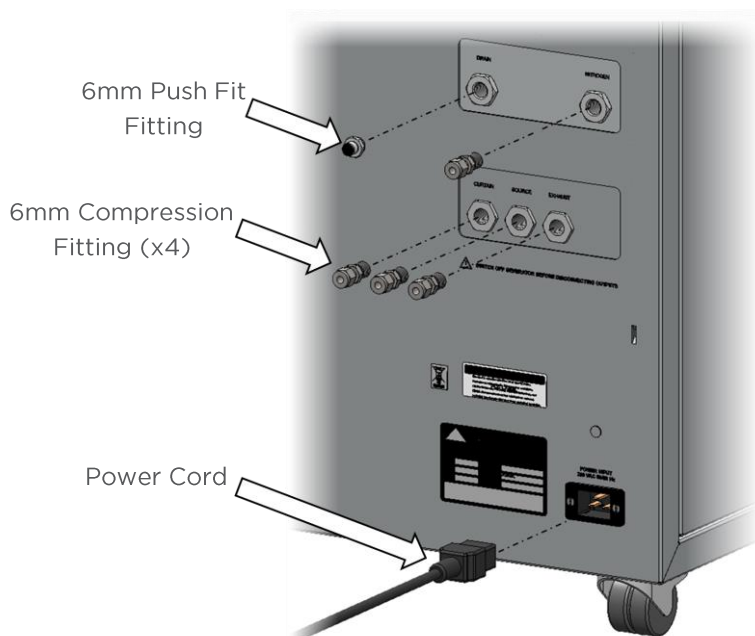

Figure 3: Rear Connections
Fit the 6mm push fit fitting (item 2 from fittings kit) to the drain port located on the output panel (see Figure 3). Tighten using a 16mm or 5/8” spanner. Use the 6mm tubing (item 4 from fittings kit) to connect this to a suitable drain connection or container. It should be noted that the Generator can expel a considerable amount of water from this (dependant on ambient humidity).